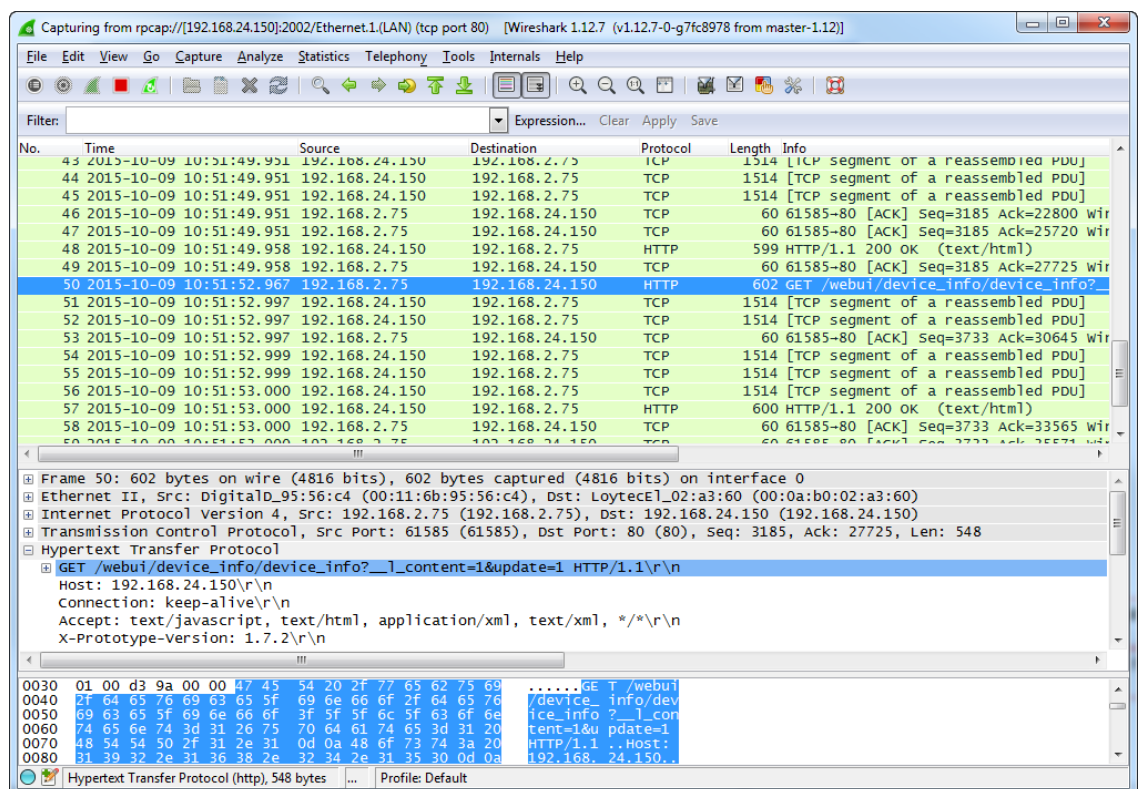

Figure 167: Example Ethernet remote capture in progress.
3. Wireshark will attempt to establish a connection to the device and, if successful, start displaying packets. An example capture is shown in Figure 167.